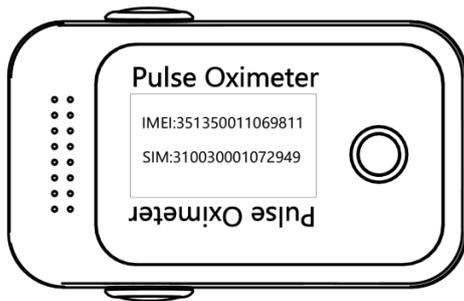

Figure 9
2. Press and hold the “POWER/FUNCTION” button for more than 3 seconds to show the IMEI and SIM card number. Press it again to exit, as shown in **Figure 9**.